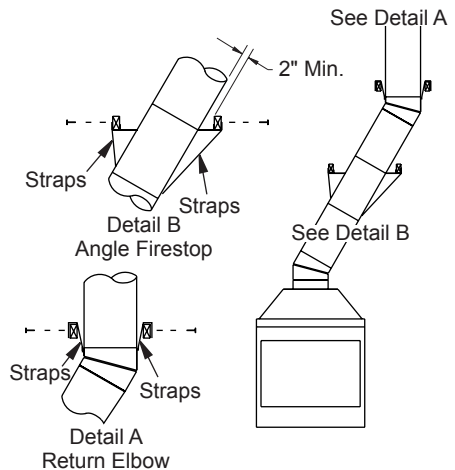

Figure 10 - Ceiling Support Pipe
2. Chimney weight above offset rests on return elbow. Straps must be securely nailed to rafters or joists (see Figure 10, details A and B).